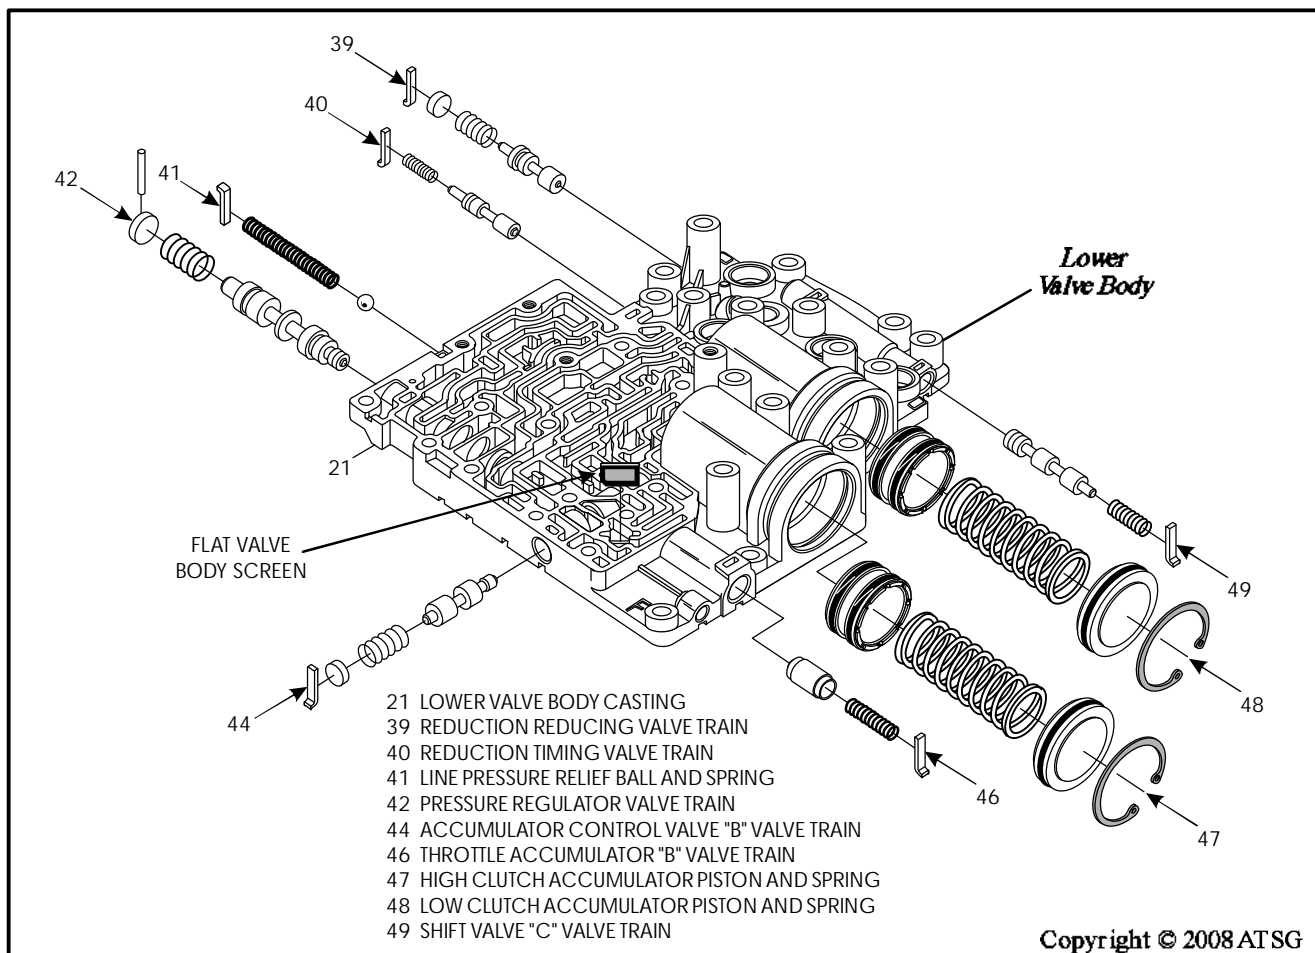

Figure 163
9. Disassemble the lower valve body, as shown in Figure 163, and place the valves, bore plugs and retainers in appropriate trays exactly as they were removed.
11. Assemble lower valve body parts exactly as they are shown in Figure 163, and lube with proper ATF as they are installed.
**Note: Install the retainers exactly as shown in Figure 163, as they install in different directions through out the valve body.**
12. Install the flat valve body screen into position as shown in Figure 163.
14. Lubricate both pistons and seals with a small amount of the proper ATF and install them into the bores, as shown in Figure 163.
16. Install both high and low clutch accumulator springs, that were previously labeled, in their proper positions, as shown in Figure 163.
18. Compress the cover and install the snap ring shown in Figure 163.
20. Compress the cover and install the snap ring shown in Figure 163.